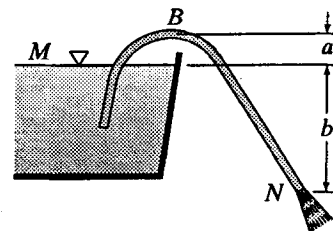

Figure X5.2.2
5.2.3 Refer to Fig. X5.2.2. Assume $a = 1$ m, $b = 4$ m, and the flow to be frictionless in the siphon. Find the rate of discharge in m^3/s and the pressure head at B if the pipe has a uniform diameter of 150 mm.